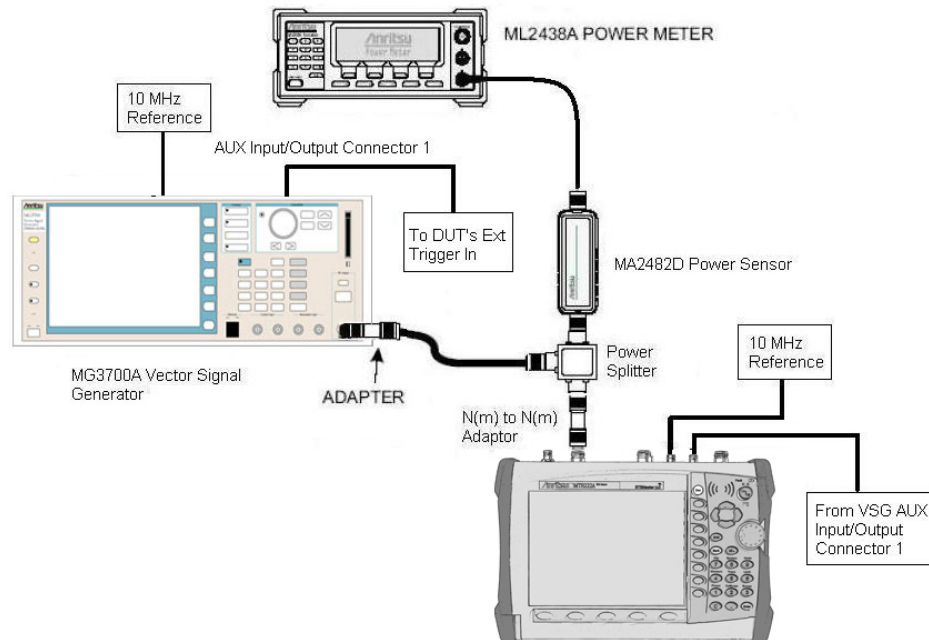

Figure 5-3. CDMA Signal Analyzer Option Verification
1. Connect the equipment as shown in Figure 5-3.